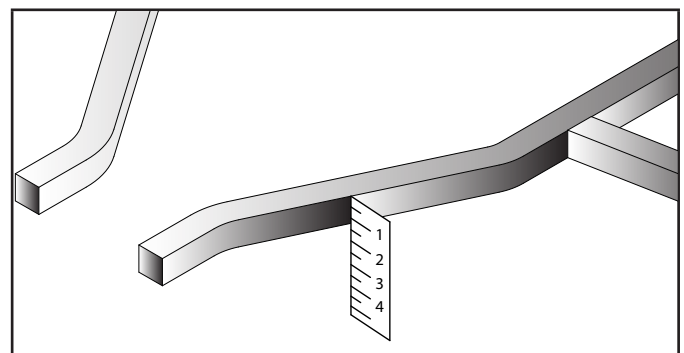

Figure 19 - Frame Measurement
- Measure the thickness of your tube frame and skid plate (if installed) see Figure 19. Then cut the provided rubber spacers to a 1/4 in. (6.4 mm) longer than the thickness of the tube frame.